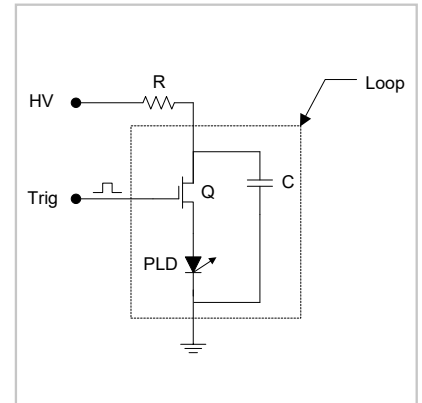

Figure 1.:
Parasitic inductance is typically associated with the current carrying conductors in a circuit (loop). The longer these conductors are, the higher the inductance they impart on the loop and the more challenging the design becomes. The most effective means for managing inductance is to place the components in the loop as close as possible to one another. Figure 1 depicts a typical loop found in high peak current PLD driver designs. Where the capacitor (C) stores the energy for each pulse, transistor (Q) is a high speed switch, PLD is the edge emitting laser diode, HV is the charge voltage used to recharge (C) between pulses, the resistor (R) is used for current limiting on the recharge cycle and TRIG is the trigger signal used to turn on the switch. The value of (R) determines the pulse repetition frequency the circuit can deliver at full power.